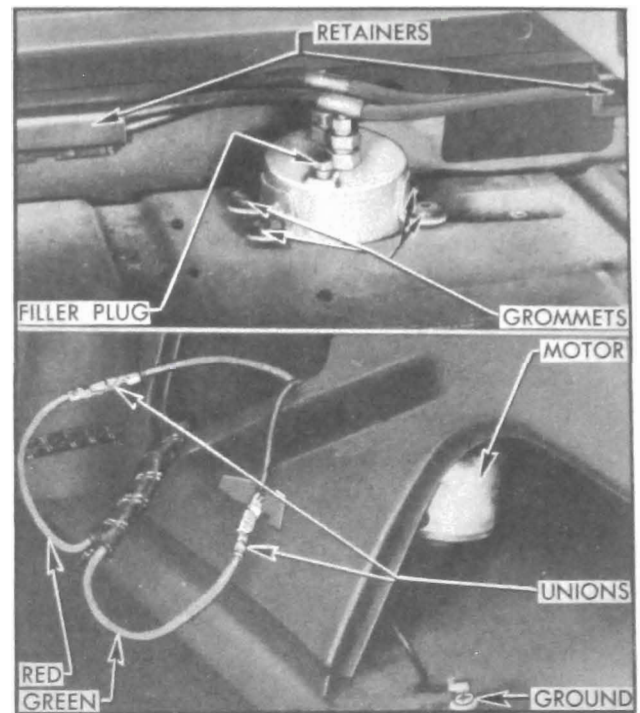

Figure 13-10—Motor and Pump Connections
3. Carefully pull wiring harness through opening in panel, remove insulation from the "jack knife" unions and disconnect the red and green wires from motor leads. Disconnect ground wire. See figure 13-10.
4. In rear (trunk) compartment, remove the motor and pump shield and the two hydraulic hose retainers. See figure 13-10.